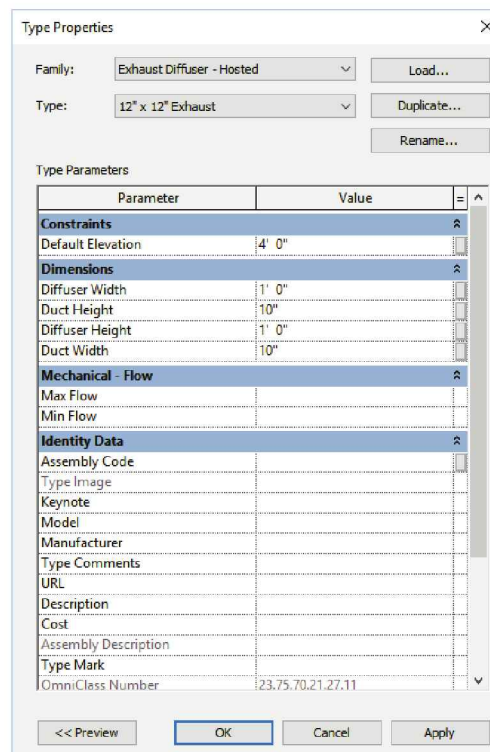

FIGURE 13-3.8 Exhaust diffuser properties
23. Click **OK** (Figure 13-3.8).